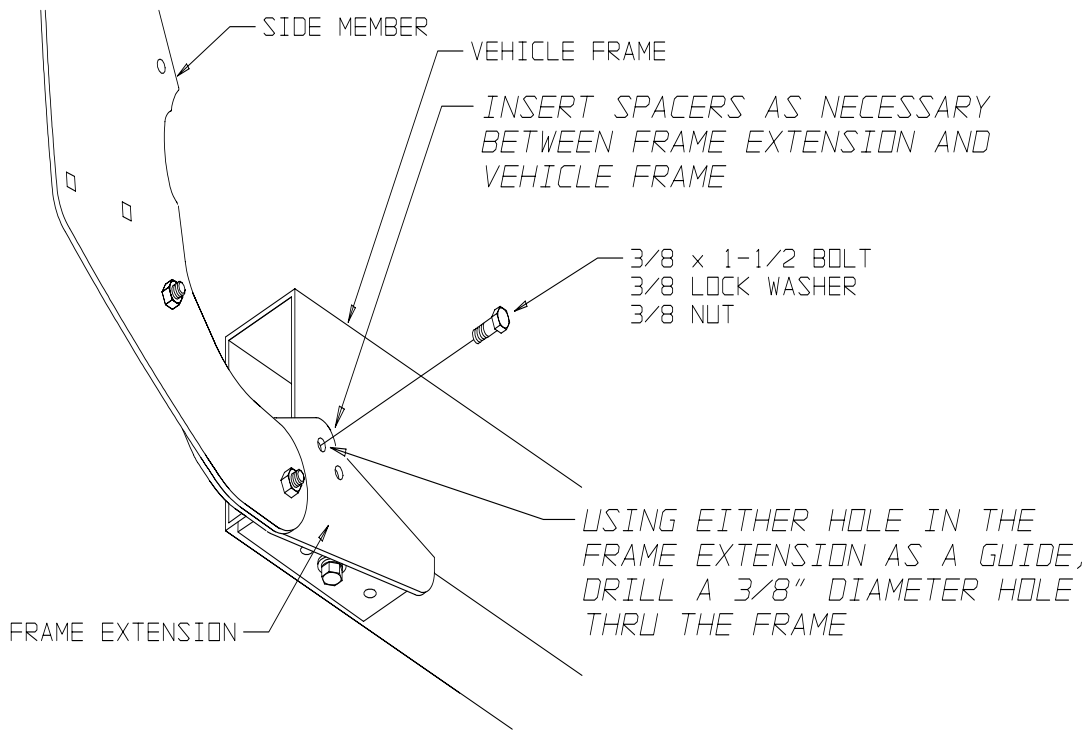

Figure 4
- Refer to **Figure 4** and drill a 3/8" hole in each frame rail using the hole in the frame extension as a guide. Choose the hole that best matches the particular frame style on your truck. It is suggested that a 3/8" drill be used at first to make a center mark, then switch to a smaller size (1/8 - 3/16") and drill thru, then finish the hole with a 3/8" drill. Install the bolt using spacer washers as required to fill the space. It is helpful to tape the washers together in a tight pack to hold them in place while inserting the bolt.